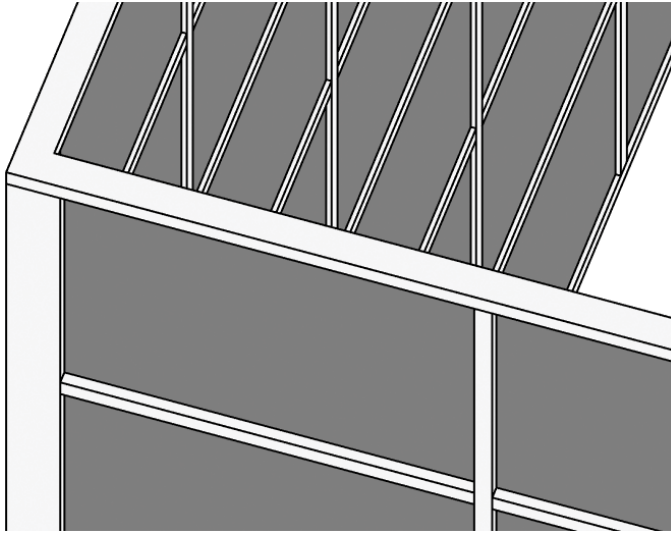

FIGURE 2.24 Curtain wall corner condition
9. Repeat step 6 to select the remaining border mullions along the grid line. Then use the Unpin tool again. For these you want to change the curtain mullion type from the Type Selector. Change the curtain wall mullions to L Corner Mullion : 5" 5" Corner. Now the corner condition should look similar to the one in Figure 2.24.